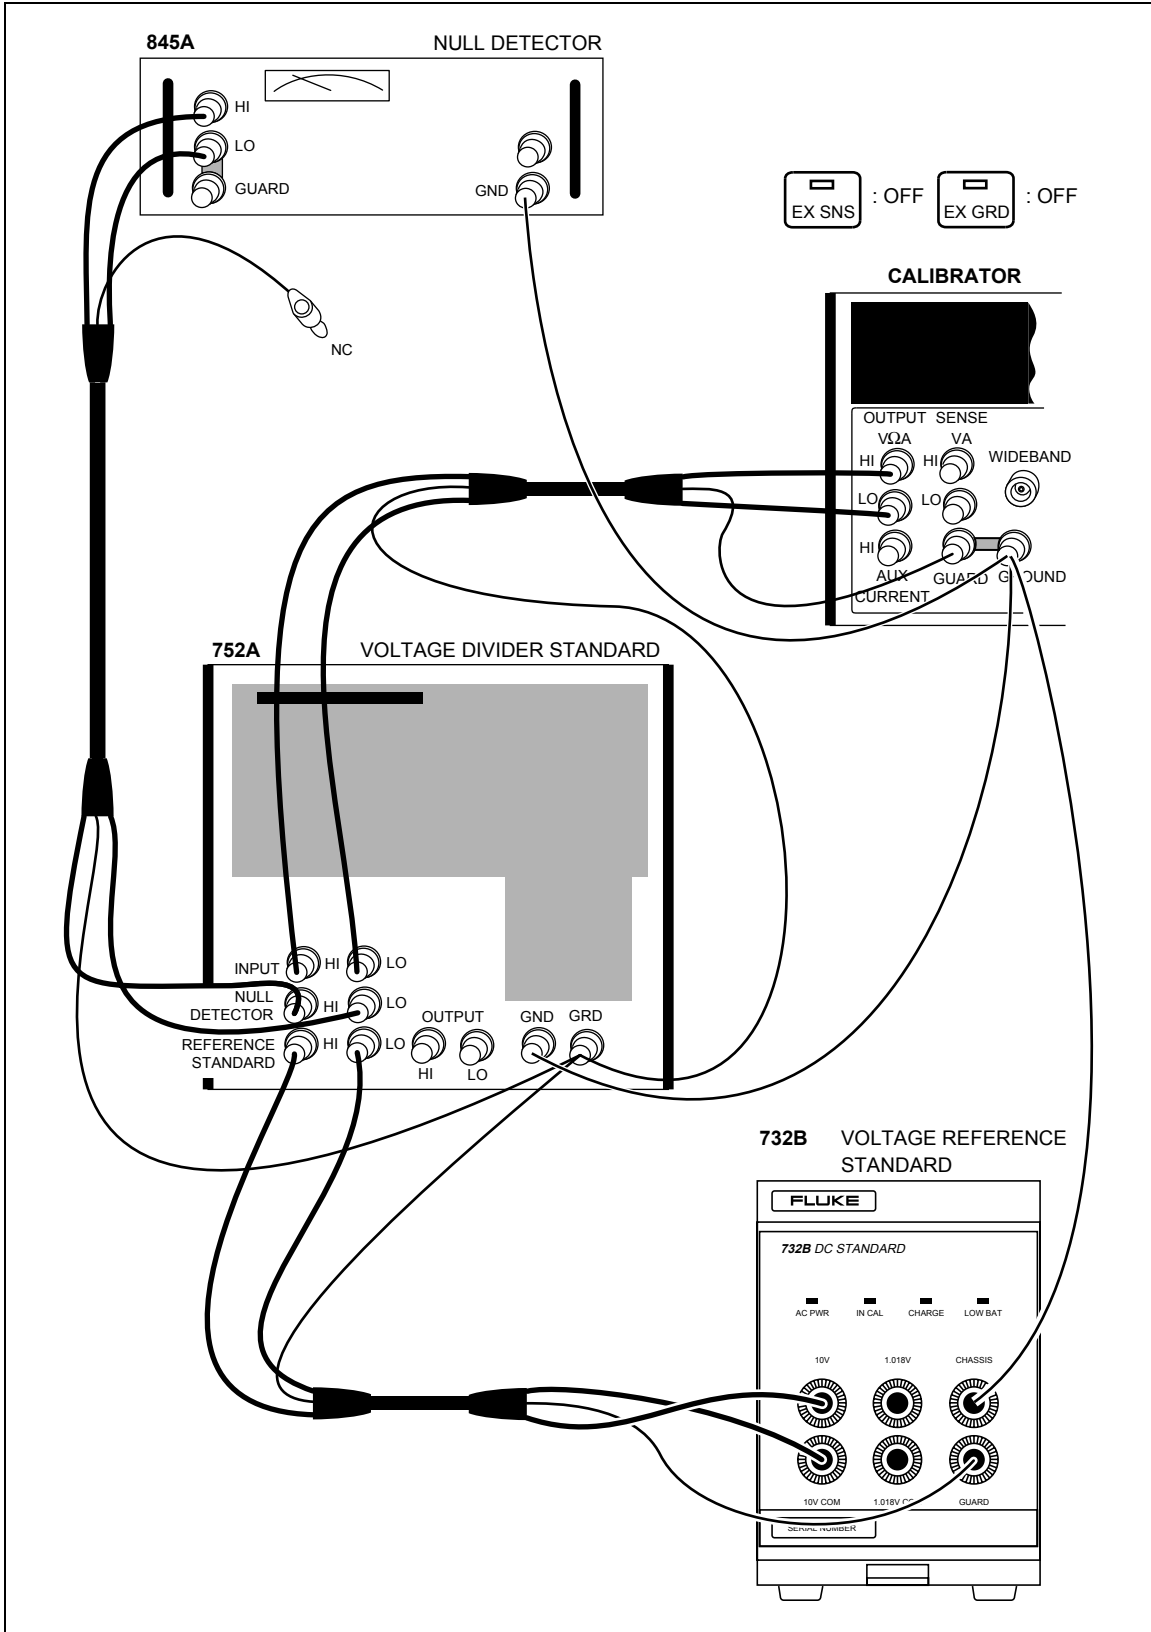

Figure 7-5. 220V DC Range Calibration Connections
- Connect the 732B, 845A, and 732B in a 10:1 configuration, as shown in Figure 7-5.